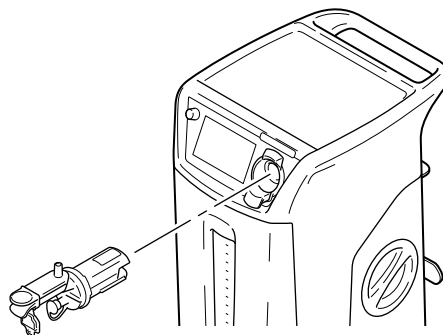

Figure 32 – Remove the Manifold
3. Remove the manifold from the rover. (Figure 32)